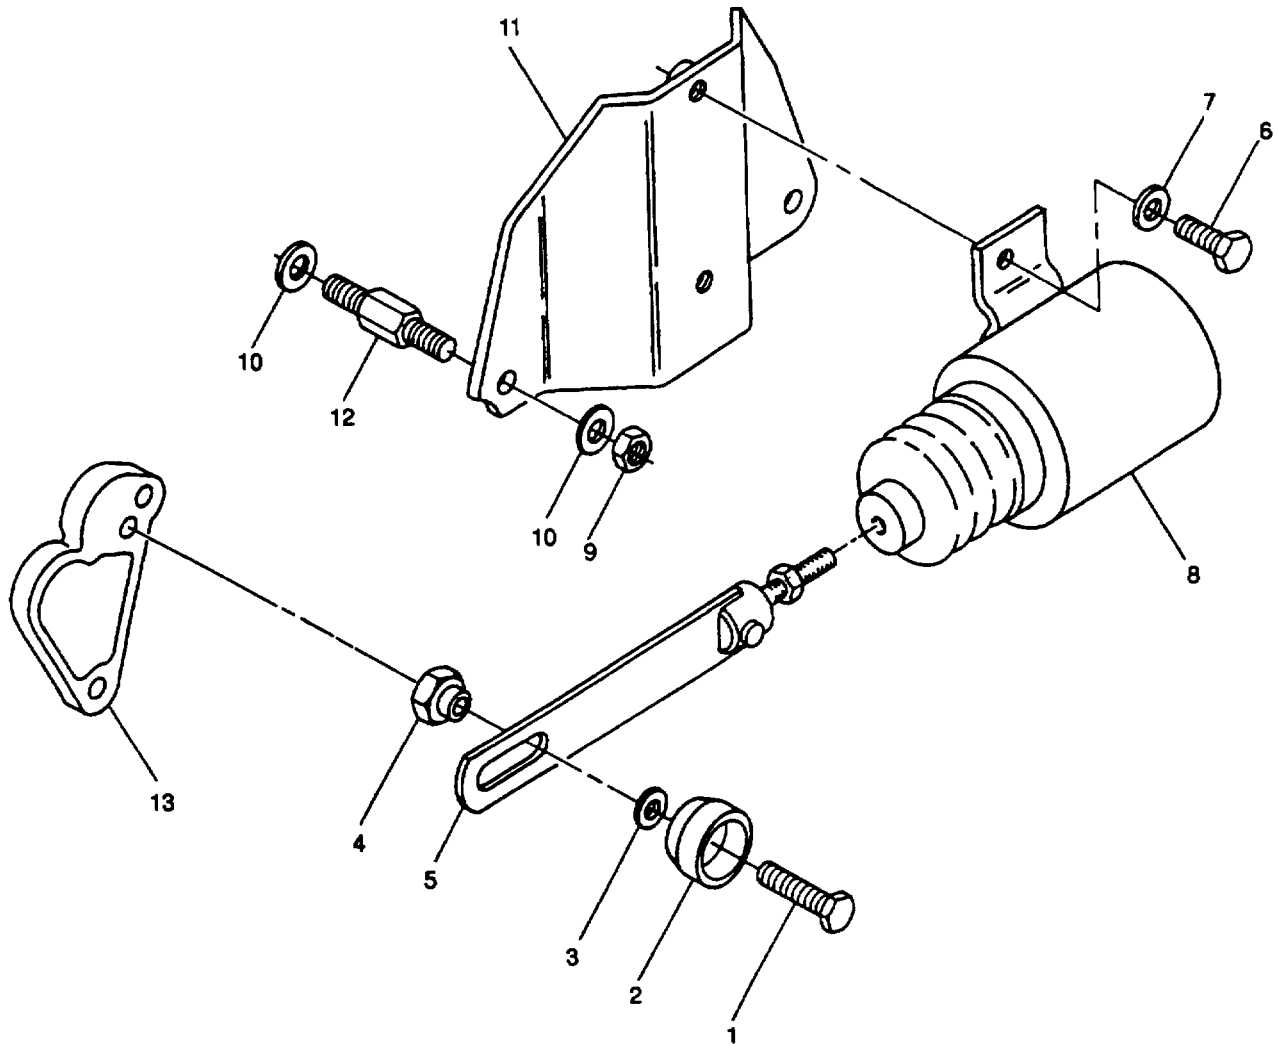

FIGURE 3-14. Fuel Solenoid Installation
- a. Tag and disconnect electrical leads from solenoid (8, FIGURE 3-14).
- b. Remove capscrew (1), knob (2), washer (3), and retaining nut (4) securing linkage (5) to lever (13).
- c. Remove two capscrews (6) and washers (7) securing solenoid (8) to bracket (11); remove solenoid (8) with linkage (5).
- d. Count number of threads exposed prior to unscrewing linkage (5). This will aid installation and adjustment.
- e. If damaged or if replacing solenoid, loosen locknut on linkage (5) and unscrew linkage from solenoid (8).
- f. If damaged, remove two nuts (9) and washers (10) securing bracket (11) to engine; remove bracket (11).
- g. If damaged, remove two studs (12) and washers (10) from engine block.
- a. If removed, install two studs (12, FIGURE 3-14) and washers (10) in engine block.
- b. If removed, position bracket (11) on studs (12) and secure with two nuts (9) and washers (10).
- c. If removed, screw linkage (5) into solenoid (8) leaving number of threads exposed as noted during removal. Tighten linkage locknut.
- d. Position solenoid (8) with linkage (5) on bracket (11) and secure with two capscrews (6) and washers (7).
- e. Connect linkage (5) to lever (13) using capscrew (1), knob (2), washer (3), and retaining nut (4).
- f. Connect electrical leads to solenoid (8) as tagged during removal. Remove tags.